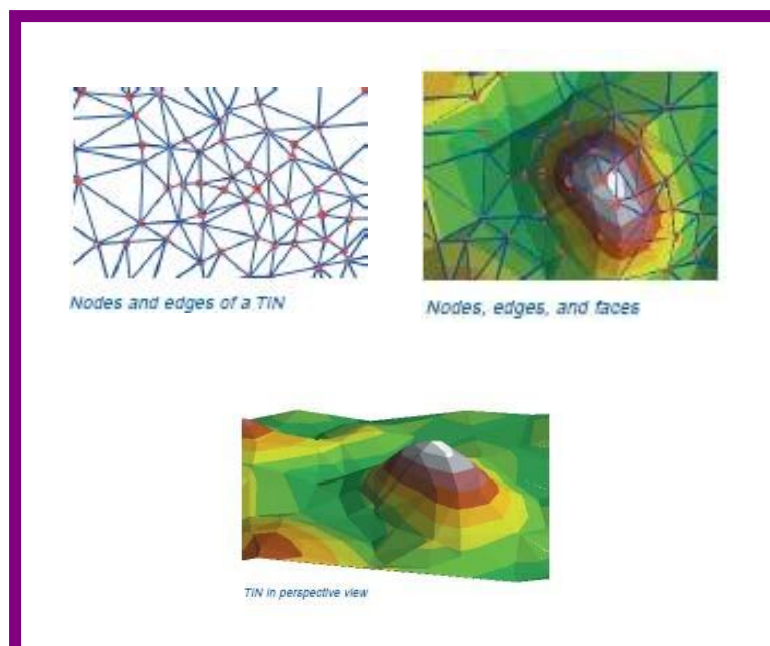

Figure 7 TIN models. (ArcGIS- ESRI, Creating surface models)
The Triangulated Irregular Network (TIN) is a surface representation based on randomly or irregularly spaced data points that have x,y, and z coordinates. A typical example of this coordinate system is longitude (x), and latitude (y), and an elevation or concentration (Z). Non-overlapping, connecting triangles are drawn between all data points where the data points (or control points) are the vertices (Figure 7)
In its basic form, TIN elevations are calculated based on linear regression between control points; contours are then drawn across the sides of the connected, tilting triangular plates (figure 7).